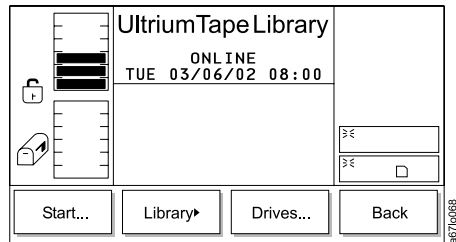

Figure 297. Service Menu
2. Press the button below the **Service** softkey. The Service Menu displays (see Figure 297).